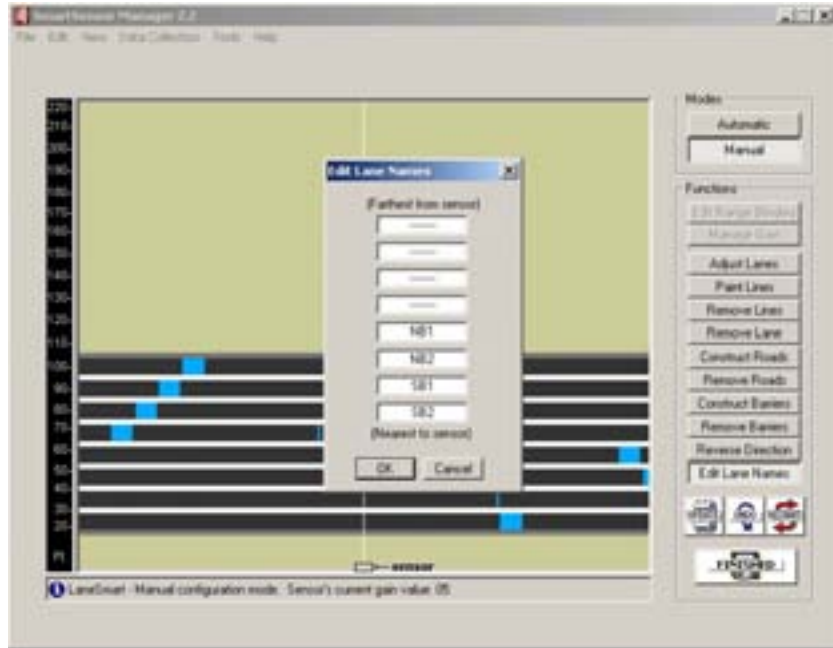

Figure 16 – Edit Lane Names
By default, the SmartSensor labels the lanes it configures from “Lane1” up to “Lane8,” where “Lane1” is the lane located closest to the sensor. The user can assign different lane numbers by clicking the **Edit Lane Names** button, which causes an “Edit Lane Names” window to appear (see Figure 16). The user will now be able to enter up to eight (8) alphanumeric characters for each lane configured. SmartSensor reports data per lane according to their labels.